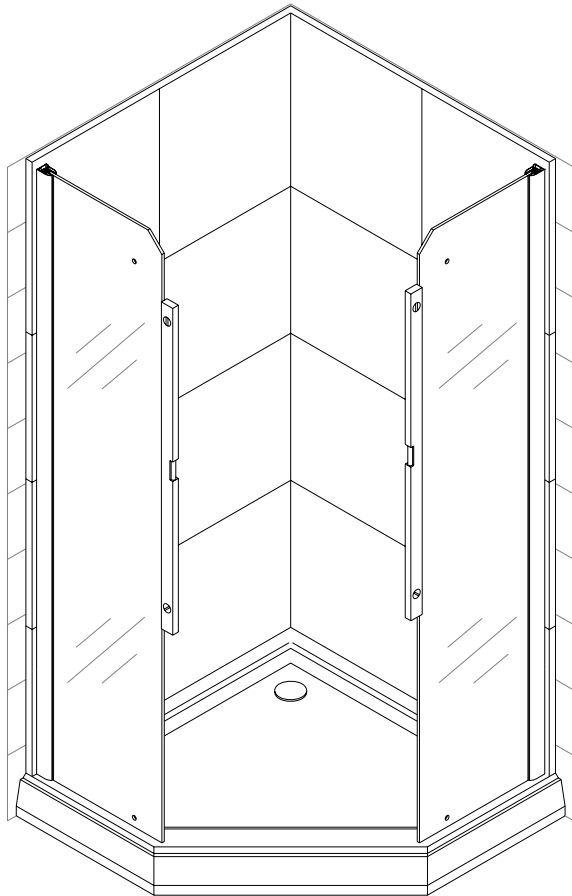

Fig 3
4. Repeat step 1-3 to install another side wall profile and second **Stationary Glass Panel**. Check, if the stationary glass panels installed vertical in both directions (fig 3).